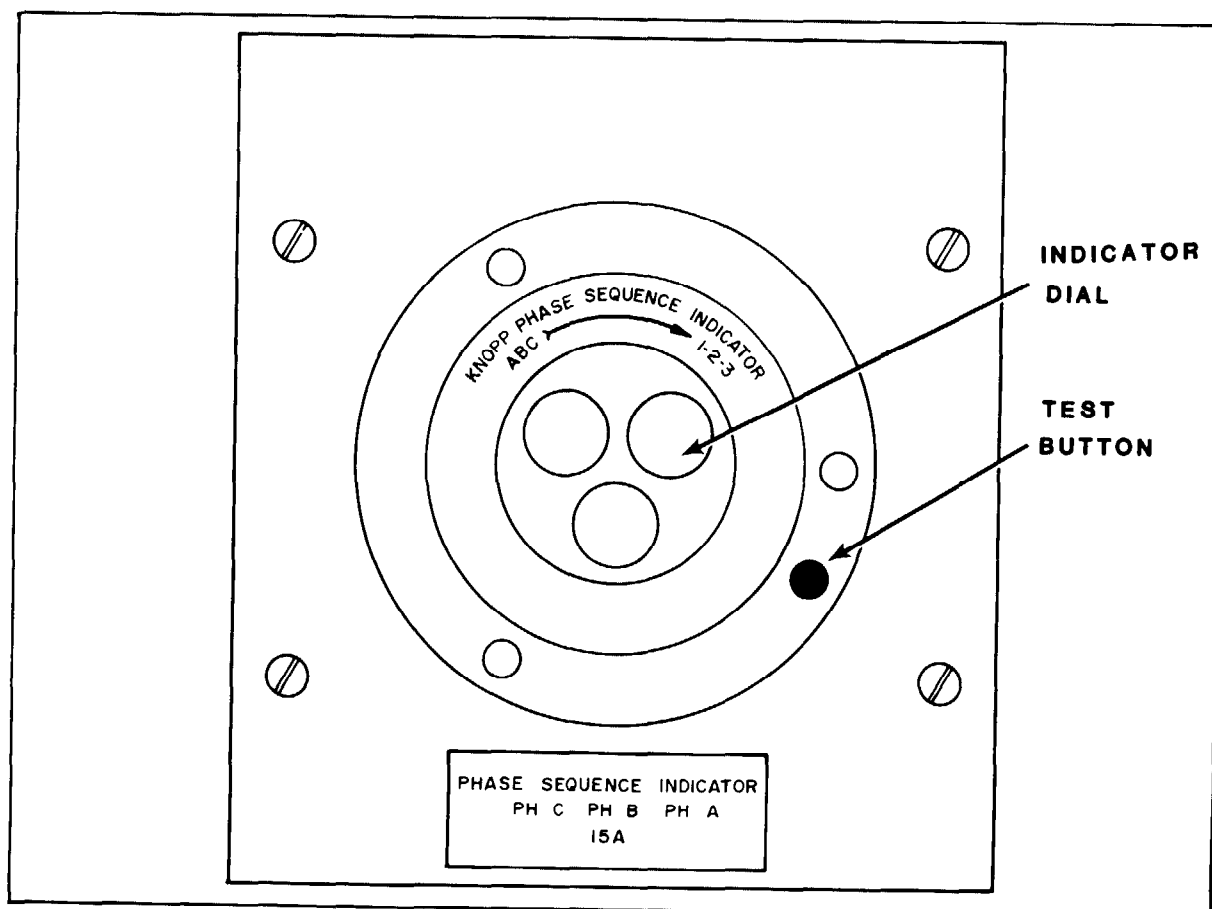

FIGURE 3-1
3.1.2.1 Phase Sequence Indicator. The proper phase sequence for shore power is verified by pressing the button beside the phase sequence indicator mounted on the main panel shown in Figure 3-1. If the dial rotates clockwise, the phasing is in the proper sequence. If it rotates counter-clockwise, the connection of two of the phase legs on the power cable are reversed and must be corrected. The phase sequence indicator measures only shore power and not the phase sequence for generator power.